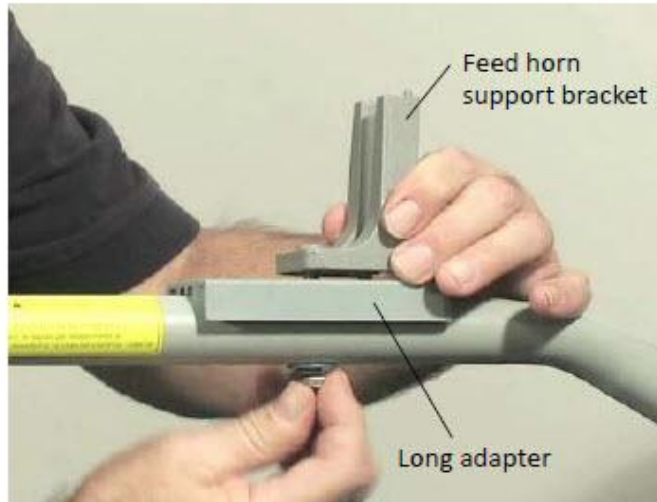

Figure 13: Positioning the radio and feed horn brackets
2. Position the long adapter bracket and feed horn support bracket on the feed support arm (as shown in Figure 13) so the bolt passes through the long bracket and into the feed horn bracket.